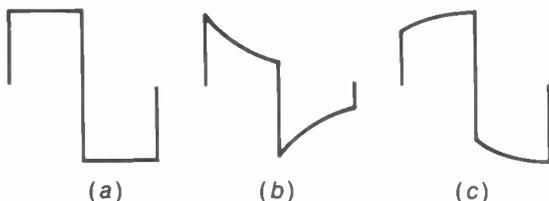

FIGURE 13-19 SQUARE-WAVE TESTING. (a) INPUT FROM SQUARE-WAVE GENERATOR. (b) LOW-FREQUENCY DROOP. (c) LOW-FREQUENCY RISE.
**Square-wave testing.** The best check for phase distortion is to test the amplifier with input from a square-wave generator at the desired frequency. This waveform is critically dependent on the phase-angle response of the amplifier. Figure 13-19 shows the input square wave in *a* and distorted output in *b* or *c*. The typical low-frequency droop in *b* indicates too little capacitance in a coupling circuit. The nonlinear top and bottom on this waveform are actually parts of the capacitor charge and discharge curves, as the  $RC$  time constant is not long